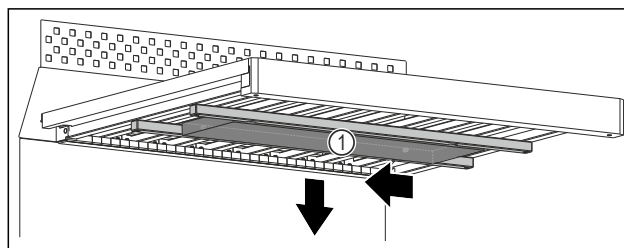

Fig. 122
- Push the water box Fig. 122 (1) to the left.
- Remove the water box Fig. 122 (1) downwards.